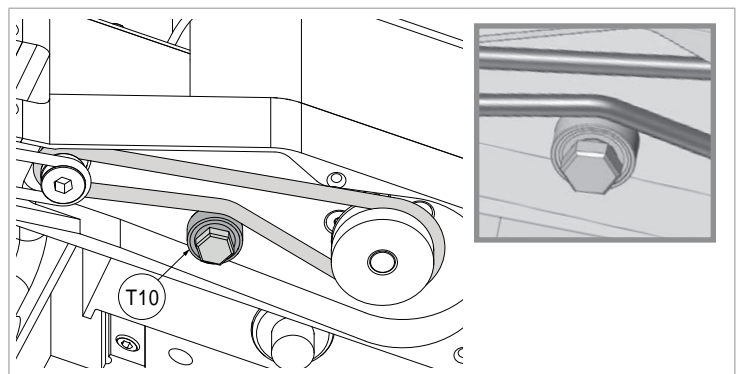

Fig. 161
**Attention: the belt (Y) must be positioned well on the belt tensioner (T10) as illustrated in Fig. 161.**